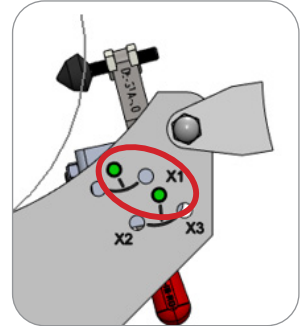

Figure 4A
9. Ensure Universal Stand is configured for X-1. (Figure 4A)